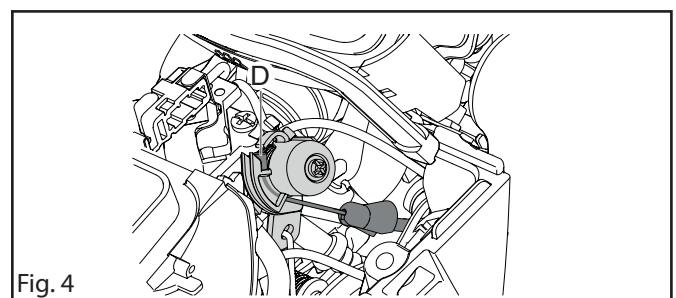

Fig. 4
6. Loosen the throttle cable in the carburettor (D). See figure 4.